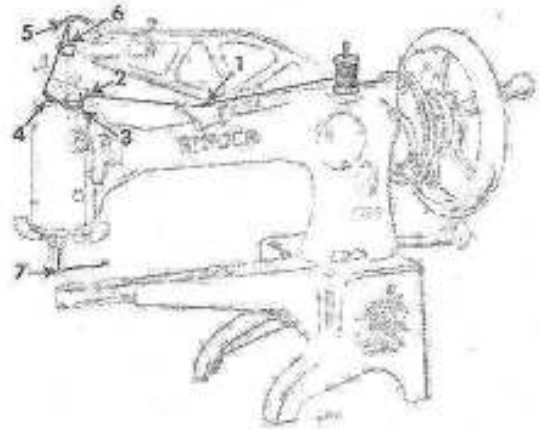

Fig. 19. Threading Needle
1. Place the spool of thread on the spool pin so that thread will draw from the rear side of spool. **See Fig. 19**.
2. Raise the wire guide in the oil cup on top of the arm and pass thread under guide then press guide back into position. See fig. 19.